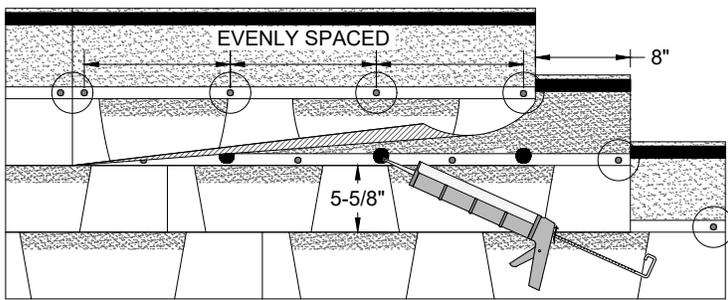

Figure 7 - Hand-Sealing Laminate Shingles
To hand-seal a shingle, apply four (4) quarter-size dabs of asphalt roof cement conforming to ASTM D4586 evenly spaced under each shingle, and press shingles firmly into the cement. Excessive use may cause blistering; correct amounts should not bleed out from under the shingle. (See Figure 7)